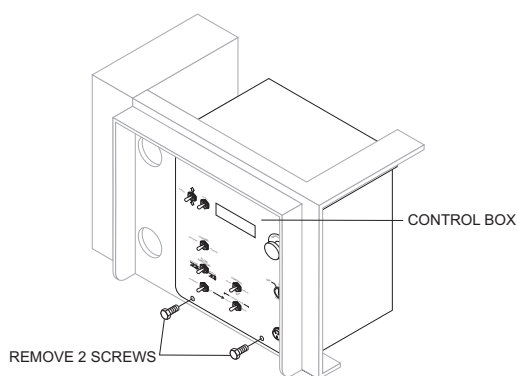

Figure 31. Removing The Control Box
1. Remove the two screws (Figure 31) on the **digital control panel** that secure the front panel to the control box.